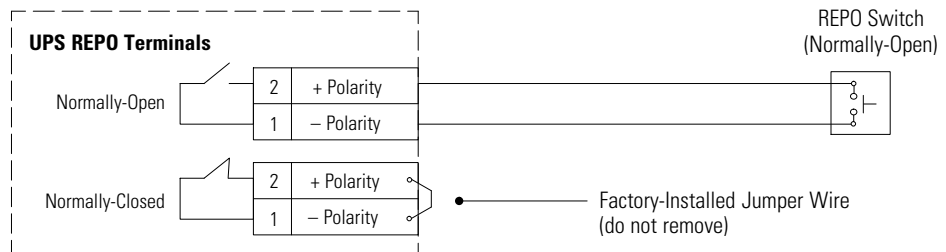
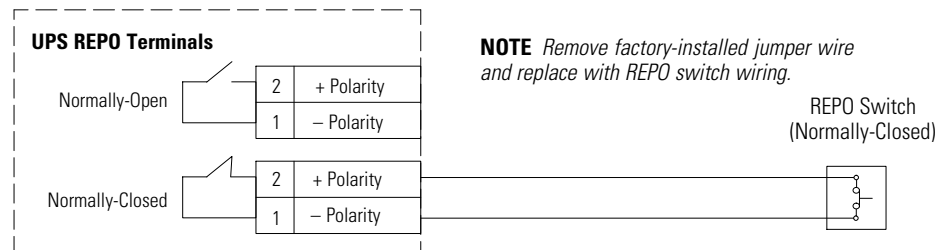

Figure 51. Normally-Open REPO Switch Wiring in a Standalone UPS
Figure 52. Normally-Closed REPO Switch Wiring in a Standalone UPS
3. Connect the appropriate external switch to the selected REPO contact. See Figure 51 for NO REPO wiring and Figure 52 for NC REPO wiring.